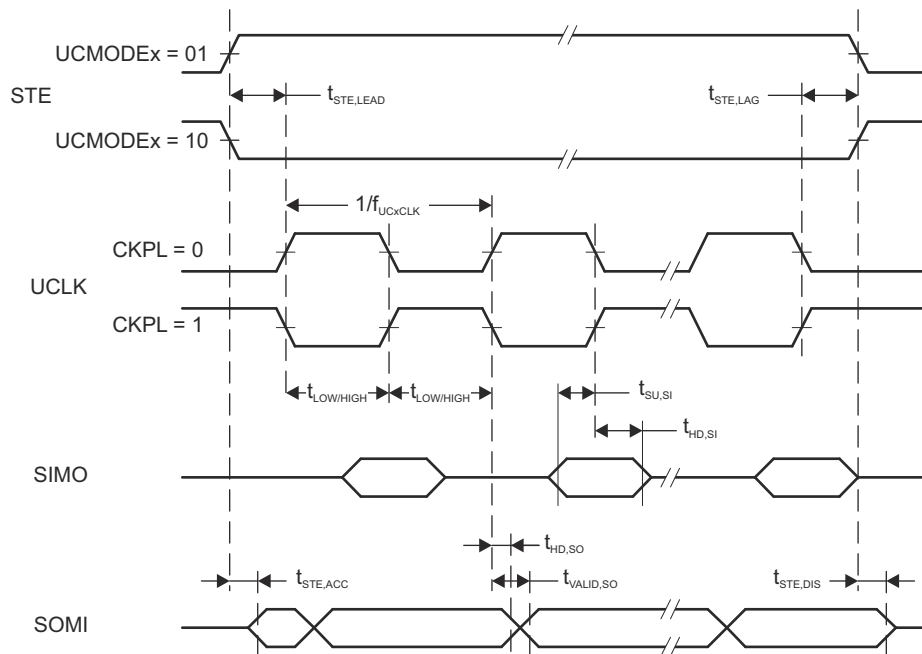
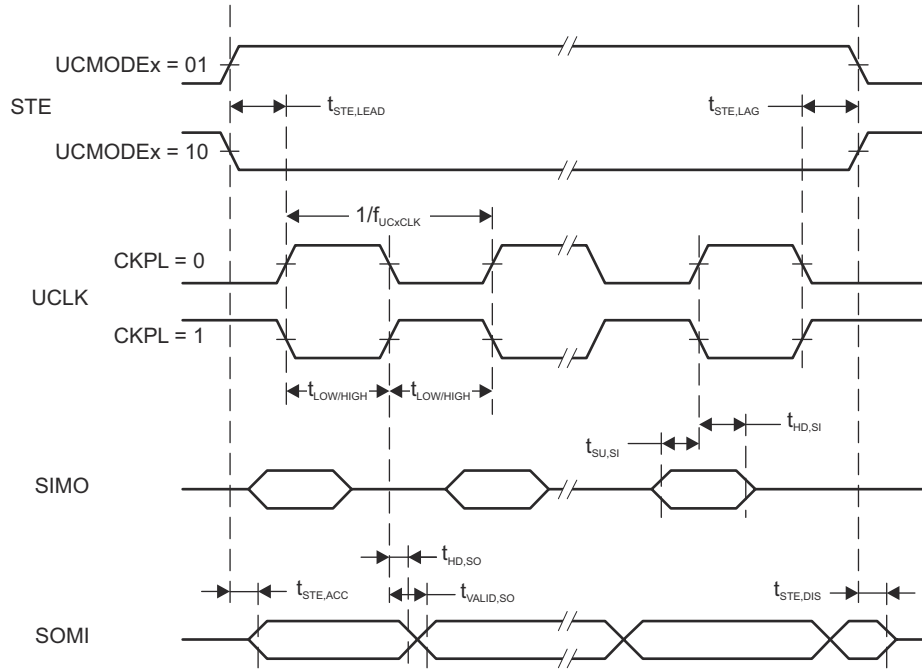

图 8-12. SPI Slave Mode, CKPH = 0
图 8-13. SPI Slave Mode, CKPH = 1
- (2) Specifies the time to drive the next valid data to the SOMI output after the output changing UCLK clock edge. Refer to the timing diagrams in 图 8-12 and 图 8-13.
- (3) Specifies how long data on the SOMI output is valid after the output changing UCLK clock edge. Refer to the timing diagrams in 图 8-12 and 图 8-13.